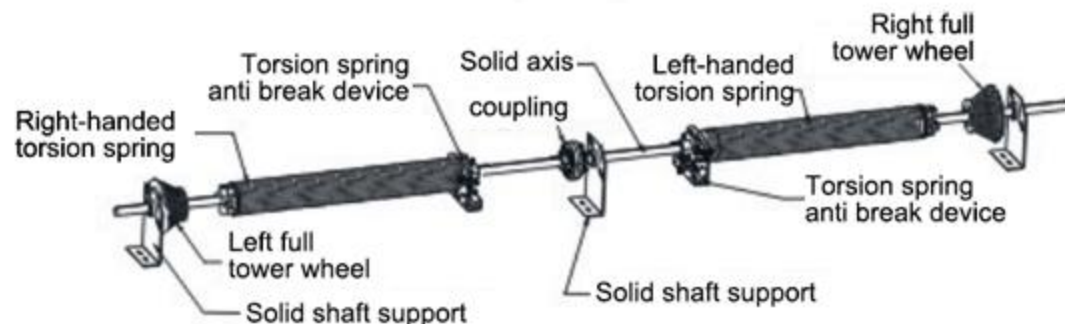

Figure 6-1
6.1.1 Assembly of the vertical lifting balance system (Figure 6-1)